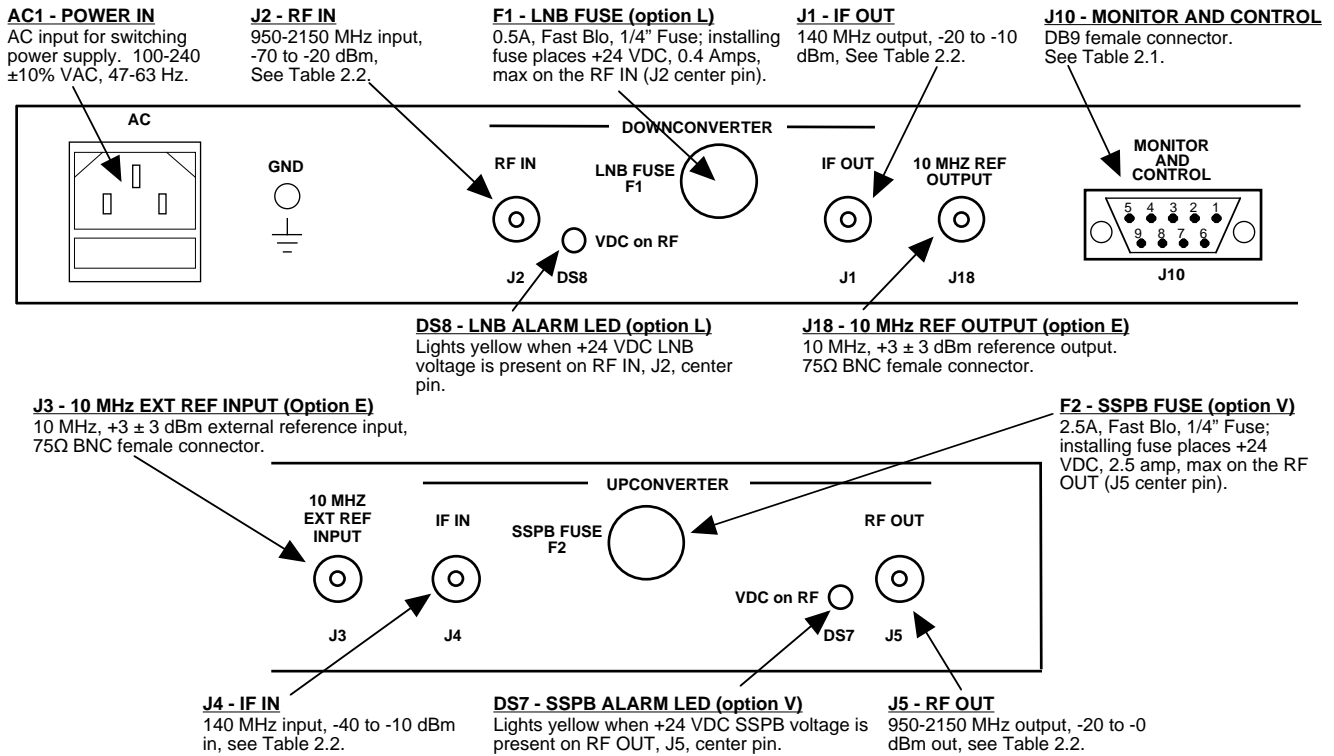

Figure 2.1 Model 2017-04 Rear Panel I/O's
Figure 2.1 shows the input and output connectors on the rear panel.
- 1.) Connect a -40 dBm to -10 dBm signal to IF In, J4 (Figure 2.1).
- 1.) Connect a -70 dBm to -20 dBm signal to RF In, J2 (Figure 2.1).